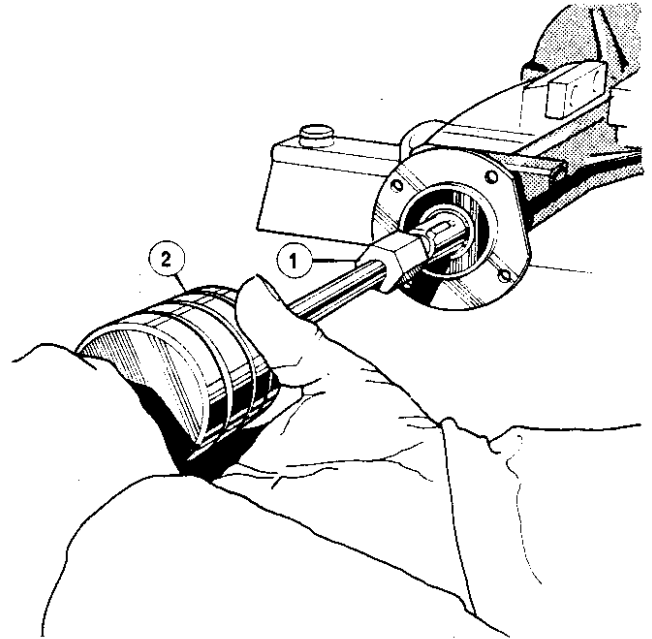

Figure 5 Removing half shaft using slide hammer (axle shown removed from vehicle)
12. The half shaft is removed by using a slide hammer part No. RT 3072 and adapter RT 3072-2. Fit the adapter on to the slide hammer and screw on to the half shaft. Sliding the hammer away from the axle will release the half shaft from the axle and the shaft, complete with slide hammer, can be withdrawn from the axle tube as shown in **Figure 5**